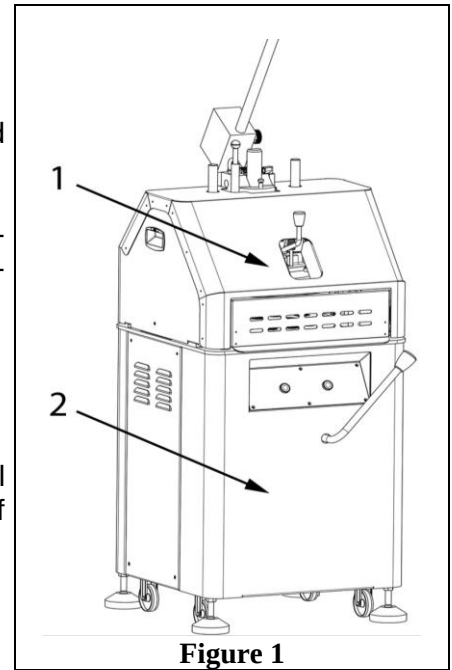

Figure 1
The Dough divider - rounding machine mainly consists of a head (Figure 1, pos.1) and a base (Figure 1, pos.2).
The head (Figure 1, pos.1) is covered by a fixed interlocked casing and it encloses the main pressing, cutting and rounding elements, including:
The base (Figure 1, pos.2) is made by assembling painted steel plates and sheets, which guarantees the strength and stability of the machine and contains the transmission parts.